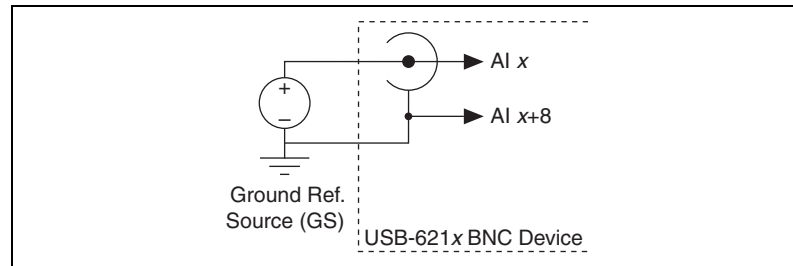

Figure A-17. Single-Ended Channels
- Single-Ended Mode**—For each BNC connector that you use for two single-ended channels, set the source type switch to the GS position. This setting disconnects the built-in ground reference resistor from the negative terminal of the BNC connector, allowing the connector to be used as a single-ended channel, as shown in Figure A-17.